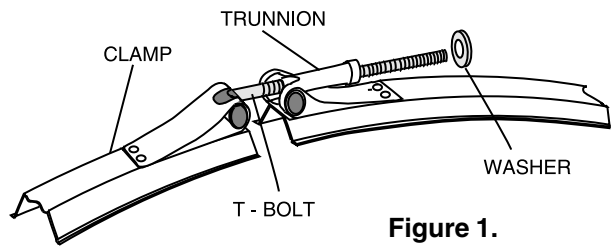

Figure 1.
6. Remove second nut from clamp assembly. If replacing entire band assembly, (Kit P/N 181011 for NS and Kit P/N 181012 for FNS), the old band should be discarded and the following instructions will apply to installation of the new band assembly. The threaded end of the T-bolt should protrude through the trunnion per Figure 1.
7. Place one of the washers (with the small hole- 5/16" inside diameter) on the threaded end of the T-bolt and slide washer down bolt until it is against the trunnion. See Figure 1.
12. Place clamp around tank flange making sure threaded end of T-bolt protrudes through trunnion as in Figure 1.
13. Place remaining washer (with the small hole- 5/16" inside diameter) on the threaded end of the T-bolt and slide washer down bolt until it is against the trunnion. See Figure 1.